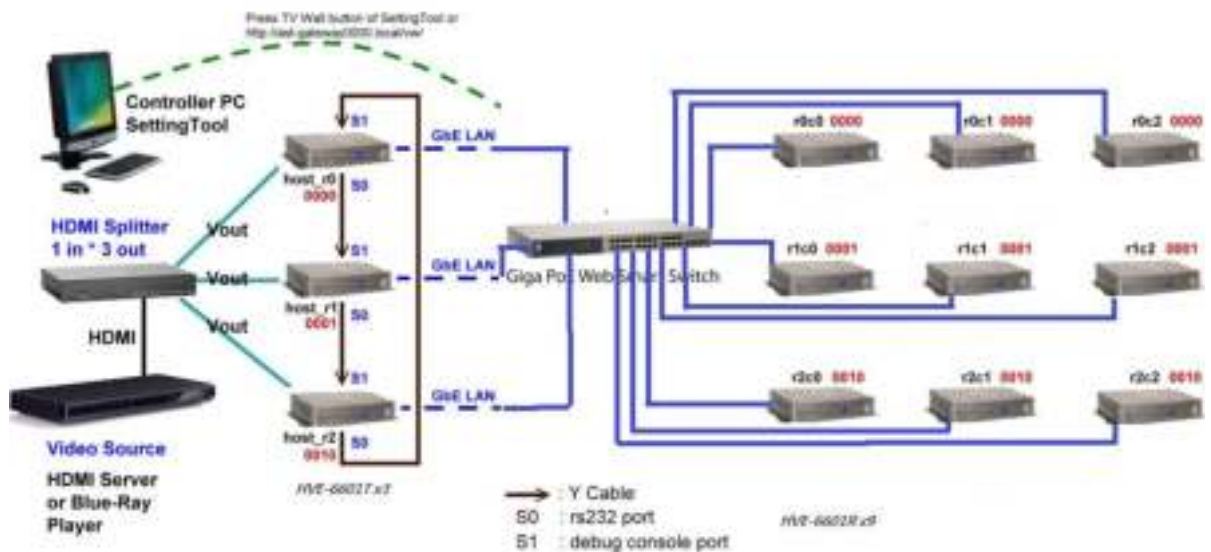

Figure 2
- If you use single Ethernet switch, the switch must support and enable IGMP snooping. And separate each row to different multicast group by using different 4-bits DIP switch number. Please visit Figure 2.